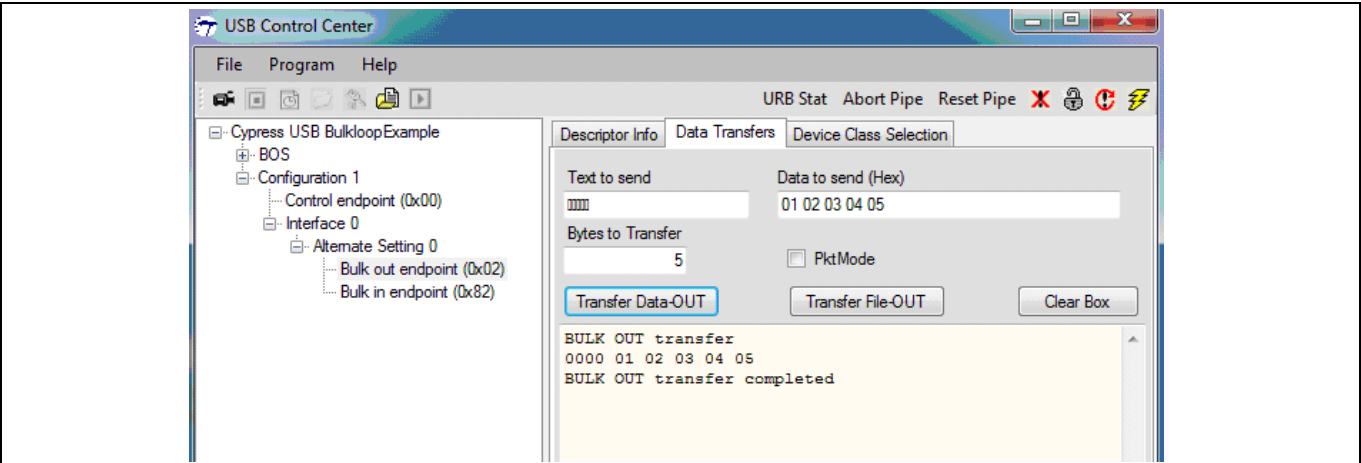

Figure 24 . BULK OUT Transfer
1. Expand all the sub-fields under the 'Cypress USB Bulkloop Example' entry. If you modified and built the firmware as explained in steps 1 to 6, then you will see BULK EP2 OUT and BULK EP 2 IN appear inside Interface 0, Alternate Setting 0 (Figure 24).
2. To perform a BULK OUT transfer, click the **Data Transfers** tab, then select the **BULK out endpoint (0x02)** in the left pane. Enter the number of bytes to transfer in the **Bytes to Transfer** field and the data to be transferred in the **Data to send (Hex)** field. The Control Center automatically inserts spaces between pairs of hex digits. Click on **Transfer Data-OUT**. Figure 24 shows the transfer of 5 bytes to the BULK OUT endpoint (0x02).